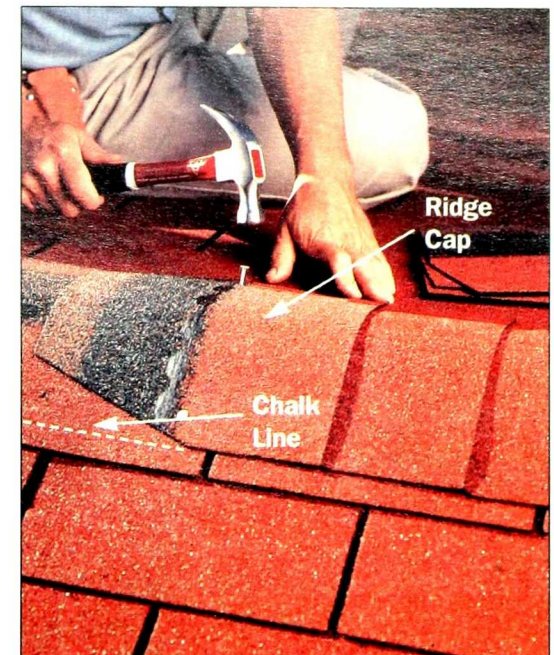

Figure 17: Install ridge cap. Individual shingle tabs with cut-off corners overlap one another to waterproof the ridge and give a finished appearance.
- Install the ridge cap (Figure 17). Trim the upper corners of the individual tabs, then overlap the pieces as you nail them along the ridge. Snap a chalk line beforehand to keep the ridge cap straight.